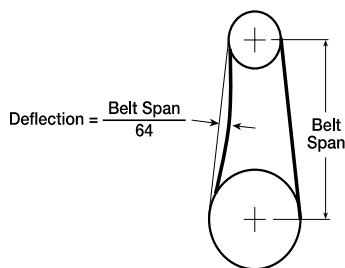

Figure 12b
**Sizes 180-540:** Belt tension should be adjusted to allow 1/64 in. (0.397 mm) of deflection per inch of belt span. For example, a 15 in. (381 mm) belt span should have 15/64 in. (5.95 mm) (or about 1/4 in. (6 mm)) of deflection with moderate thumb pressure at mid-point between pulleys, see Figure 12b.